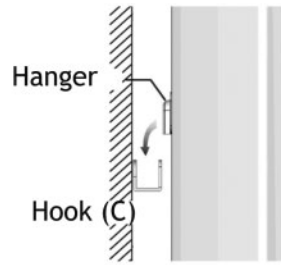

Fig. 9
5. Hang the heater on the two hooks (C) on the wall. Ensure that the heater is correctly secured on both hooks. (Figure 9).